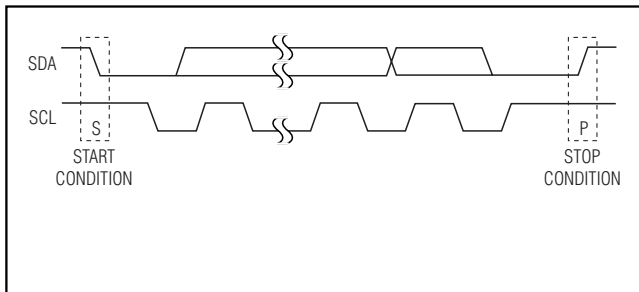

Figure 2. START and STOP Conditions
addresses plus R/ $\overline{W}$ bits, 1 or more data bytes, and finally a STOP condition (Figure 2).
Both SCL and SDA remain high when the interface is not busy. A master signals the beginning of a transmission with a START (S) condition by transitioning SDA from high to low while SCL is high. When the master has finished communicating with the slave, the master issues a STOP (P) condition by transitioning SDA from low to high while SCL is high. The bus is then free for another transmission (Figure 2).